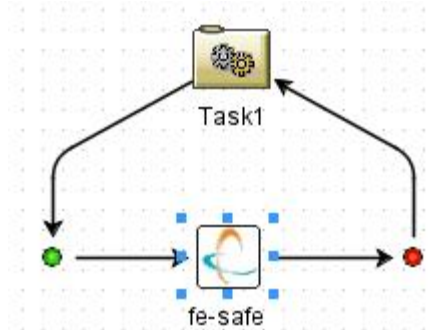

Figure 5-2: The *fe-safe* component in the simulation process flow
- 1) Drag and drop the *fe-safe* component onto the horizontal arrow in the default flow displayed on the canvas. Your display should look like the one in Figure 5-2.